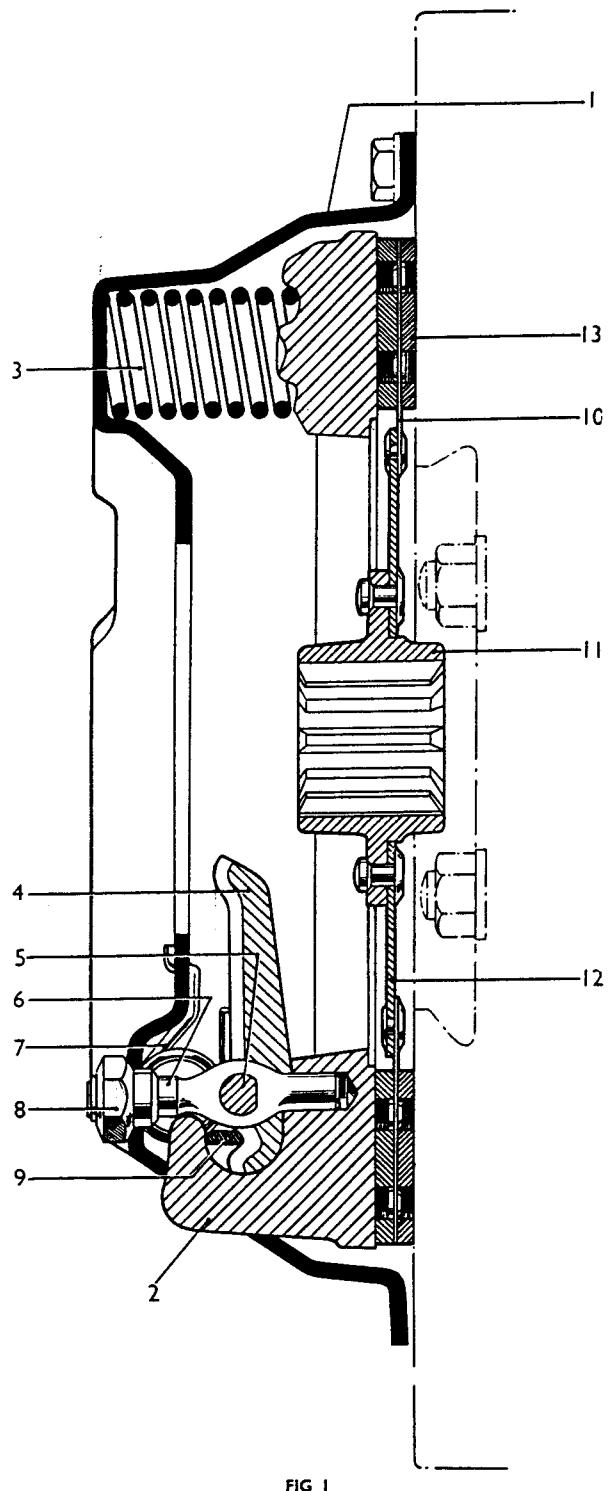

FIG. 1
## DESCRIPTION (FIG. 1.)
Components are illustrated in Fig. 1 which gives a section of the unit.
NOTE : The adjusting nuts (8, Fig. 1) are correctly set and locked when the unit is assembled and should not be altered unless the clutch has been dismantled. Interference with this adjustment will put the pressure plate out of position and cause clutch judder and promote failure of the clutch release bearing.
Remove each release lever (4) by holding lever and eye-bolt (6) so that the inner end of the lever and the threaded end of the eye-bolt are as near together as possible, keeping the eye-bolt pin (5, Fig. 1.)
### ASSEMBLY OF CLUTCH (FIGS. 1 & 5)